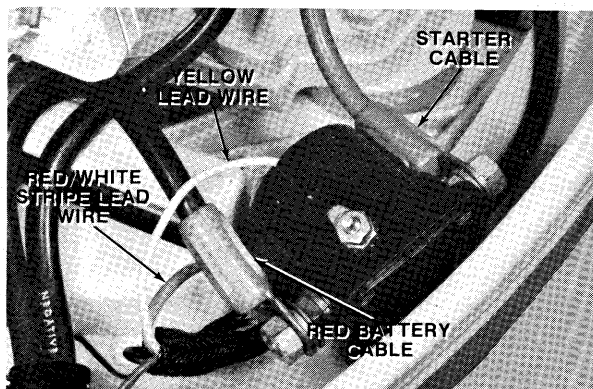

Figure 1—Removing Leads from Starter Relay
- B. Remove nut securing "POS" battery lead wire and red and white striped lead wire to forward side post of starter relay and remove both leads as shown in figure 1.